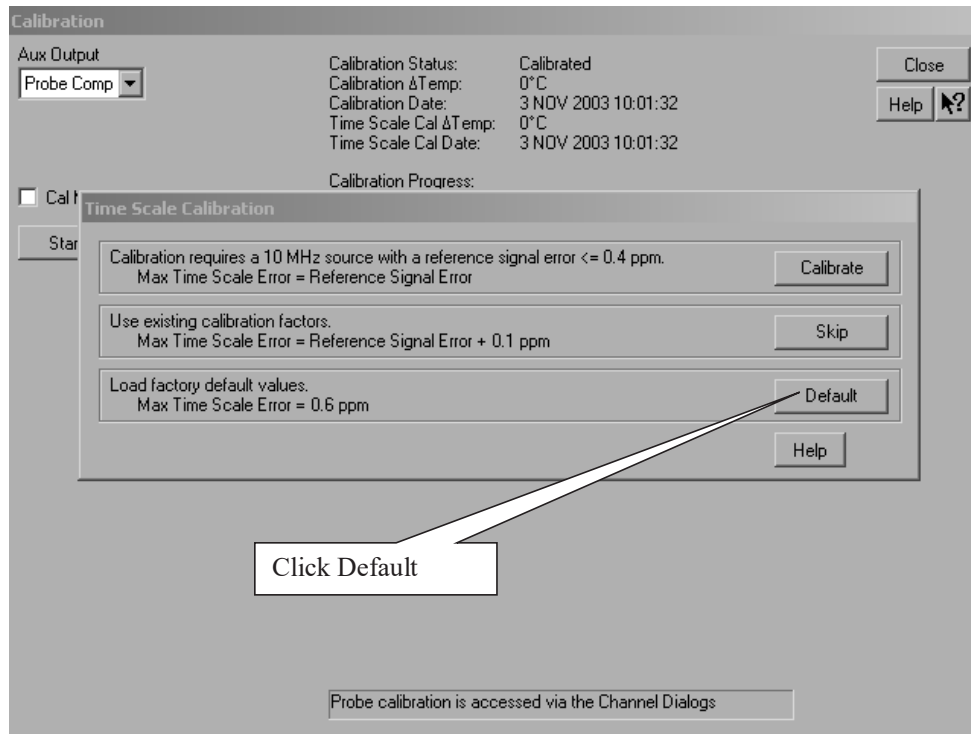

Figure 5 Time Scale Calibration Menu.
- d Early during the calibration of channel 1, you will be prompted to perform a Time Scale Calibration, as shown in Figure 5 below.